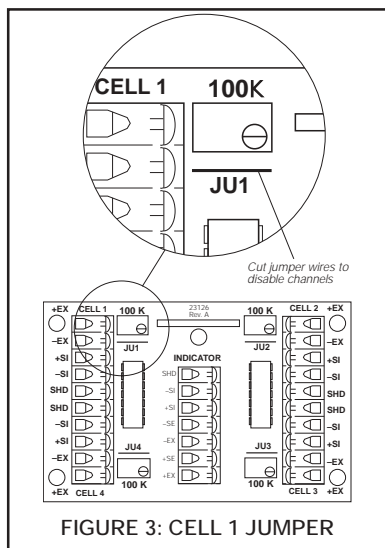

FIGURE 3: CELL 1 JUMPER
2. Make sure jumpers corresponding to any unused terminals have been cut to disable use of these channels. See Figure 3.
If less than four load cells are used, cut the jumper traces on the unused terminals to disable their use. See Figure 3 on next page.